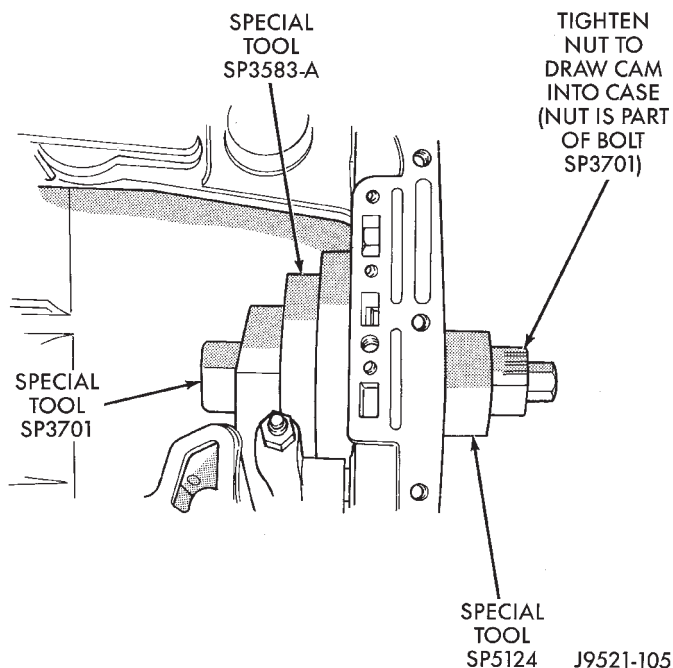

Fig. 151 Pressing Overrunning Clutch Cam Into Case
(7) Hold puller plate and bolt in place and install puller nut SP-3701 on puller bolt (Fig. 151).
(8) Tighten puller nut to press clutch cam into case (Fig. 151). **Be sure cam is pressed into case evenly and does not become cocked.**
(9) Remove clutch cam installer tools.